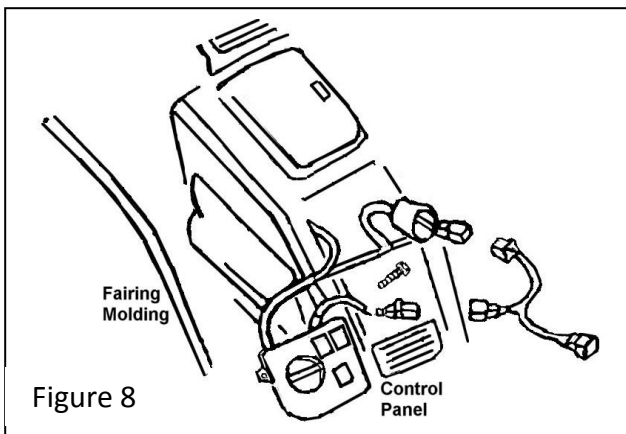

Figure 8
**12.** Remove left side fairing trim molding, Figure 8.